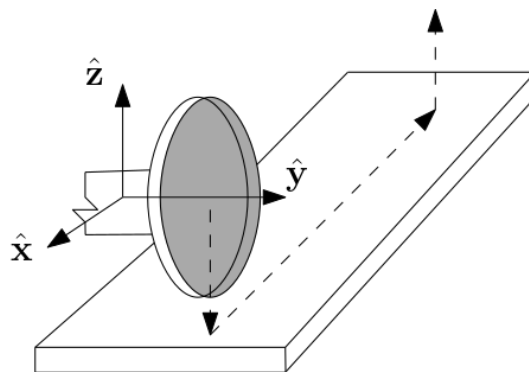

Figure 4: Grinding sequence for Qn. 6
6. A robot is required to perform a grinding task through the following sequence of subtasks (refer Figure 4):